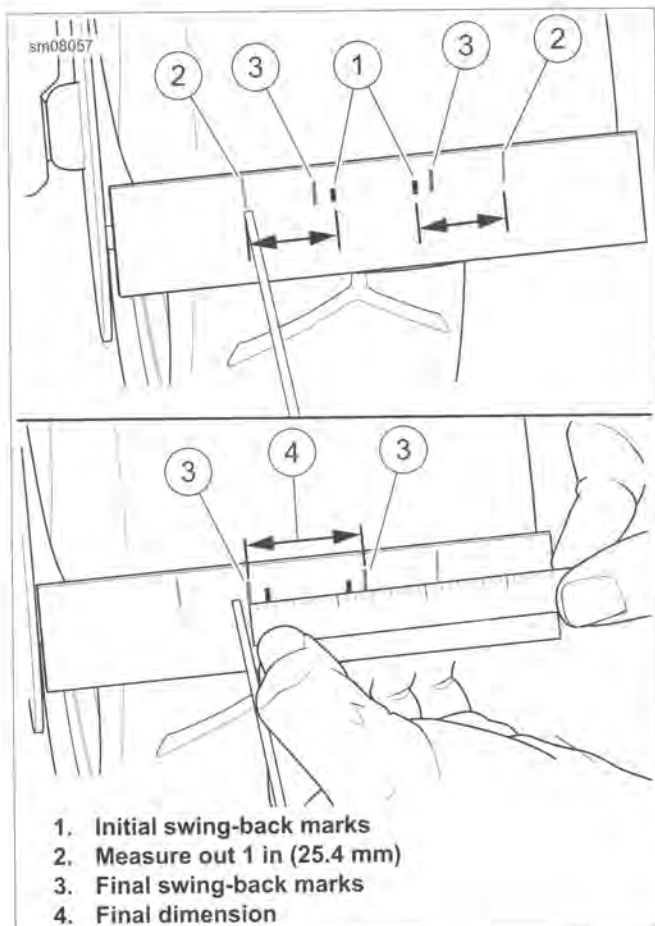

Figure 1-39. Marking and Measuring Swing Points
- See Figure 1-39. Lightly tap the front tire to the left until it just begins to swing back toward center. Mark the point (1) where it began to swing back.
- Repeat by lightly tapping the front tire to the right. Mark the point (1) where it began to swing back.
- Measure outboard 1 in (25.4 mm) from each mark (1). Mark these points (2).
- Turn the front end until the pointer is at the left mark (2) and release. Mark where the swing stops (3).
- Turn the front end until the pointer is at the right mark (2) and release. Mark where the swing stops (3).